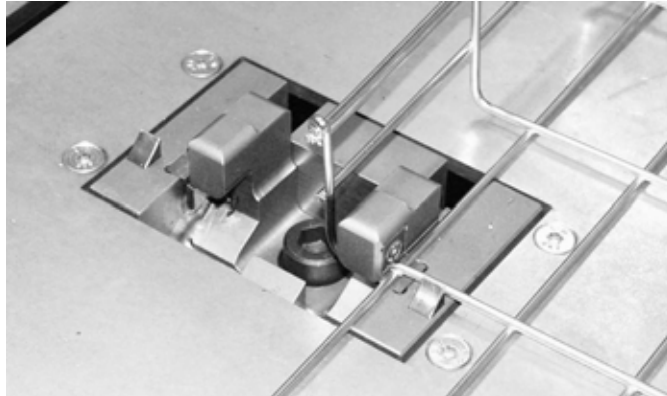

*Fig. 4.31 – Cutting, by a single cut, those transversal lateral wires which have been isolated*
5. cut, by a single cut, transversal lateral wires which have been isolated (fig. 4.31);